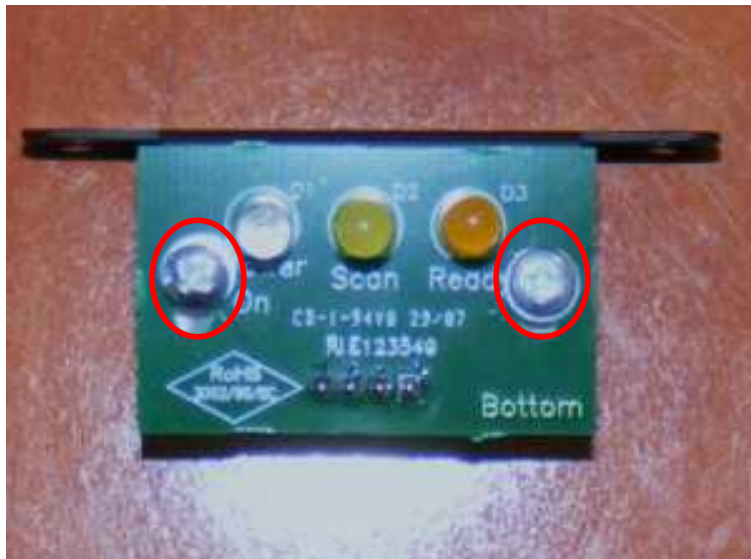

Figure 9-2
- Release two M3 screws and remove the metal adapter. (figure 9-2 , 9-3, 9-4)